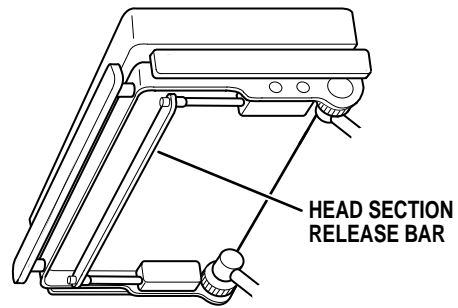

Figure 3-14. Head Section Adjustment
a. A quick release positioning bar located under and to the front of the head section (figure 3-14) is used to raise or lower the head section. Pull the release bar toward the head end to allow the section to pivot up or down. Positioning from 60° above horizontal to 90° below horizontal in 15° increments is available. Release the bar to lock the head section in position.